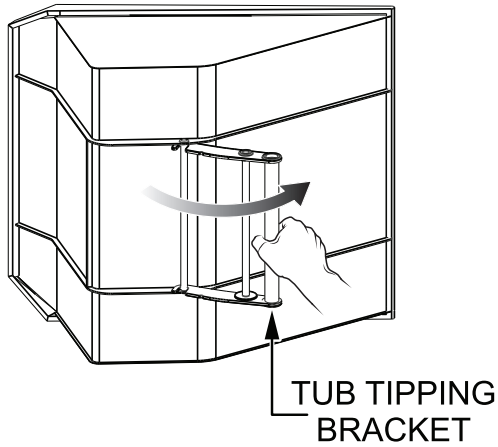

Figure 71. Tipping Bracket Orientation
3. Orient the tub tipping bracket to the base of the tub as shown in Figure 71.